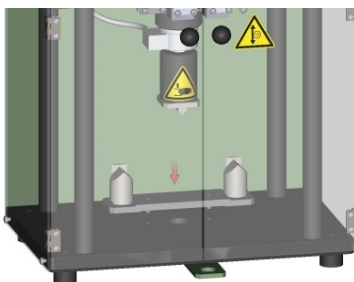

Figure 6.2.9
3. Align the Transverse Strength Attachment Base on the Minilab Base Plate (Figure 8.1, Item 4), ensuring that attachment cylinder pins are mounted in the corresponding holes on the machine base (see Figure 6.2.9).